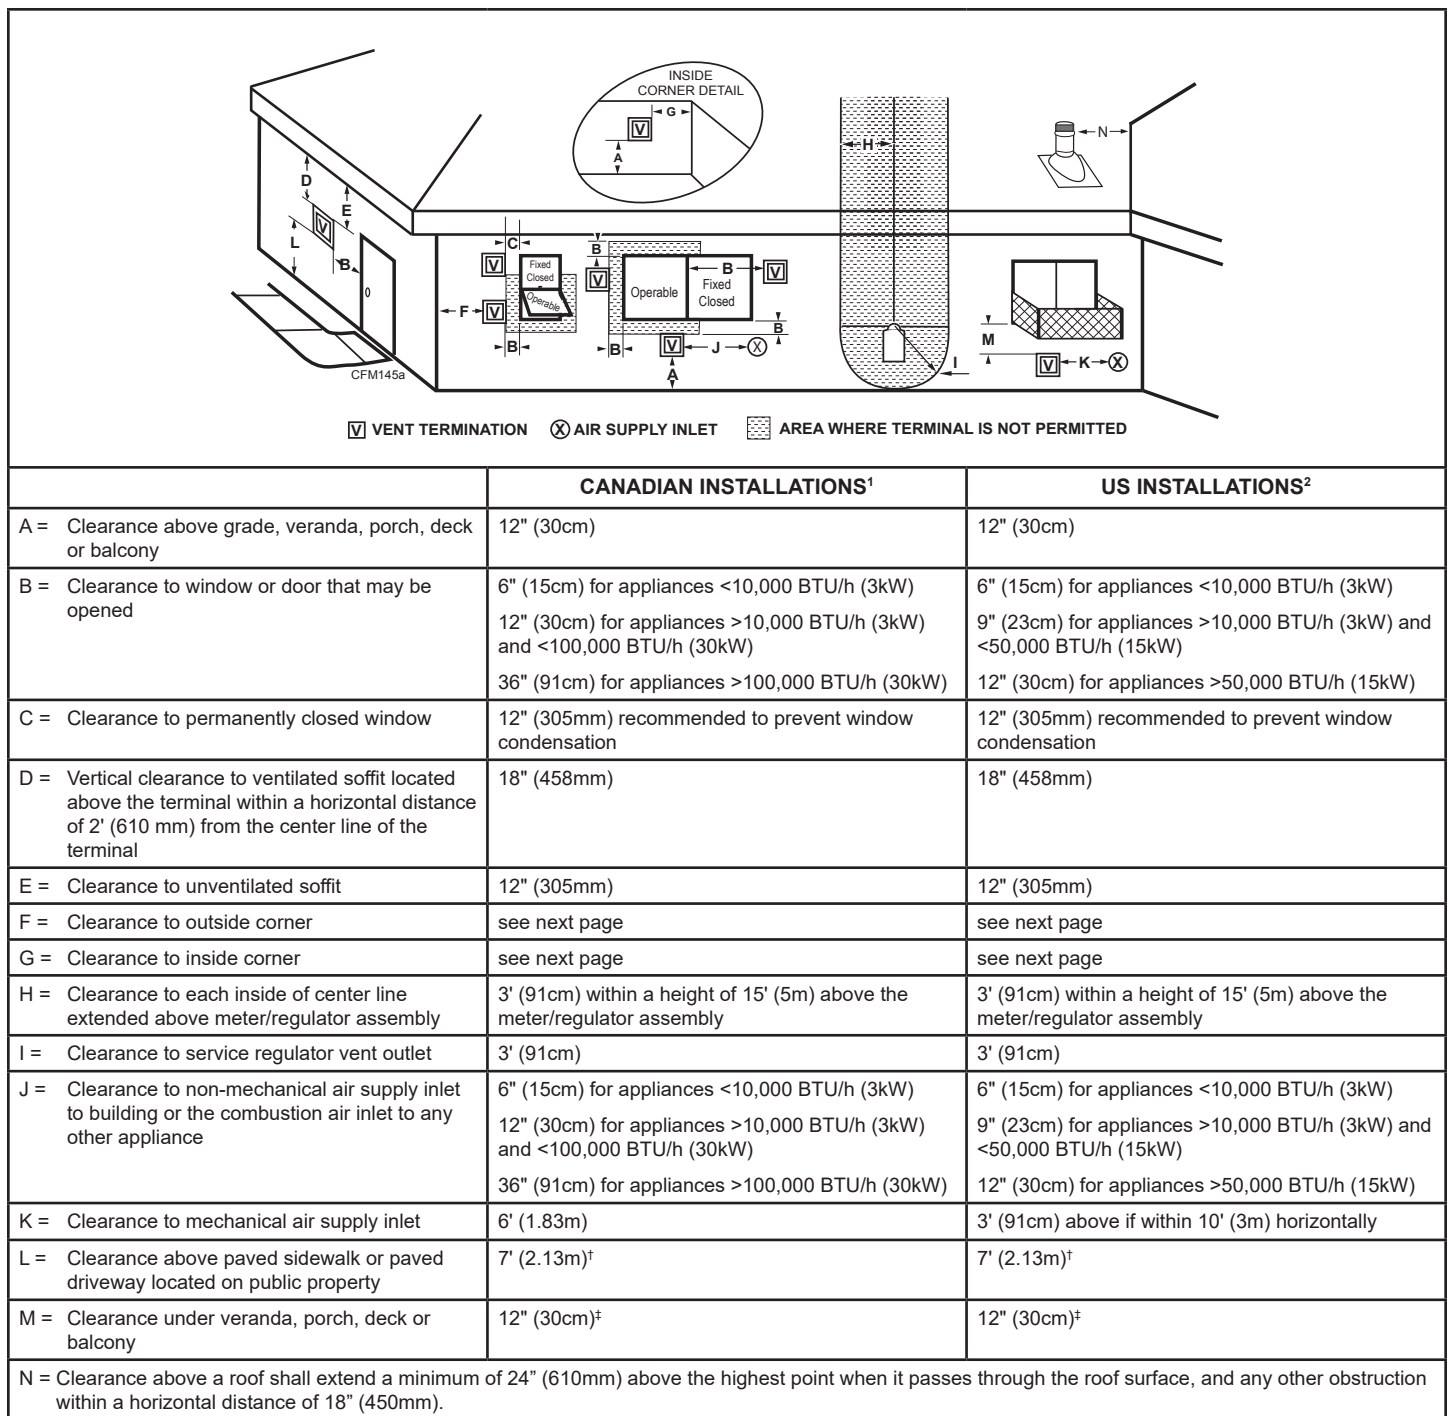

Figure 2.11 - Vent termination clearances.
The vent must rise vertically a minimum of 24" (610 mm) off the top of the unit, before the first elbow. The horizontal run may extend up to 20' (6m) and include a vertical rise of up to 40' (12 m). (Figure 7) Horizontal termination must also meet the criteria shown in Figures 2.11 through 2.12.
- Termination height must conform to roof clearance as specified in Figure 2.11.
When planning the installation, consider the location of the vent terminal and clearances. Some of the most common clearances to keep in mind are shown in Figure 2.11.
Important: All vent clearances must be maintained. Check your vent termination clearances against Figures 2.11 and 2.12.